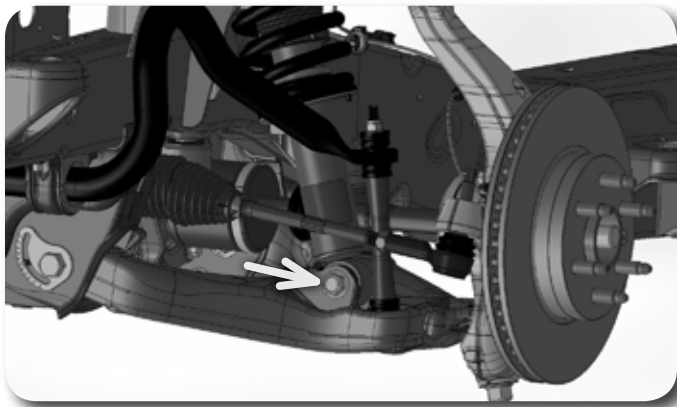

Figure 4
5. Remove the lower strut bolt. Figure 4